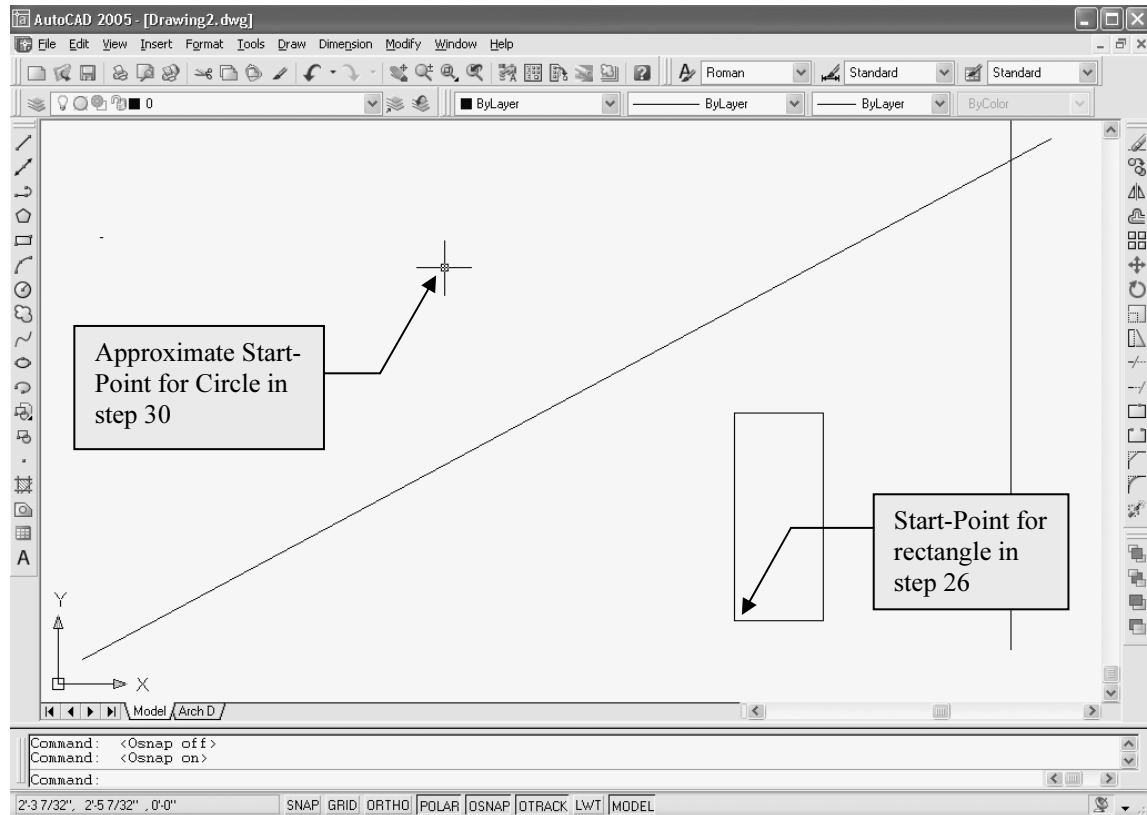

Figure 2-1.14 Drawing with Rectangle added
26. Pick your "**first corner point**" somewhere near the middle-bottom of the *Drawing Window*. (Figure 2-1.14)
30. You are now prompted to pick the center point for the circle; pick a point approximately as shown in Figure 2-1.14.